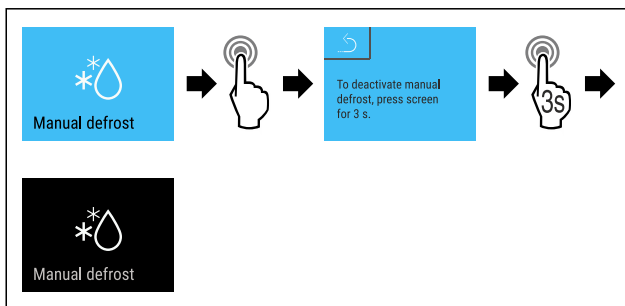

Fig. 133
- ▶ Complete steps (see Fig. 133) .